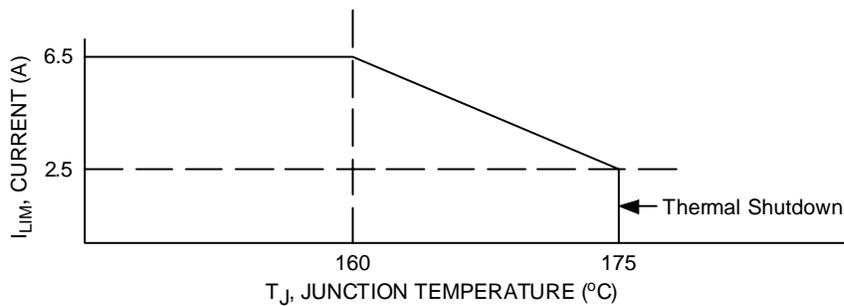
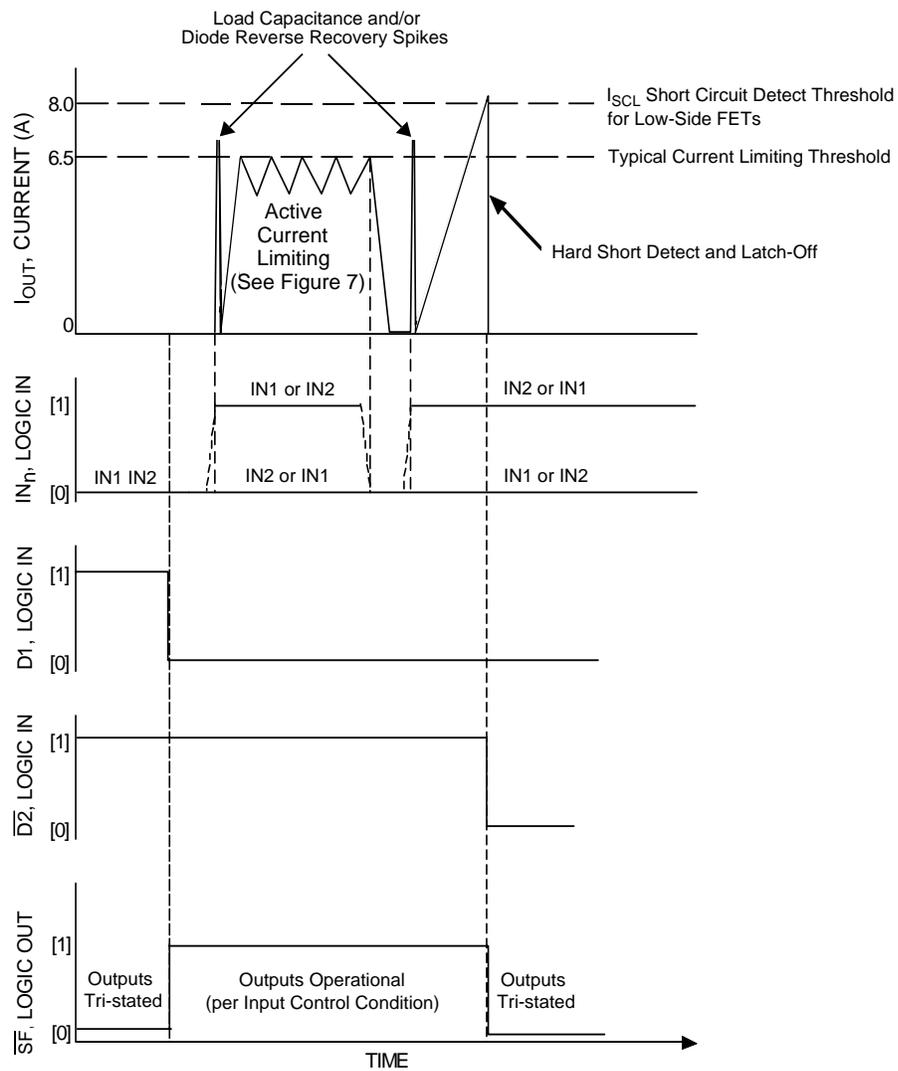

Figure 7. Active Current Limiting Versus Temperature (Typical)
Figure 8. Active Current Limiting Versus Time
- Increasing currents will become limited at ILIM. Hard shorts will breach the ISCH or ISCL limit, forcing the output into an immediate tri-state latch-OFF. See Figures 8 and 9, page 9. Active current limiting will cause junction temperatures to rise. A junction temperature above 160°C will cause the active current limiting to progressively “fold-back” (or decrease) to 2.5 A typical at 175°C where thermal latch-OFF will occur. See Figure 7, page 8.
The current limiting threshold value is dependent upon the device junction temperature. When  $-40^\circ\text{C} < T_J < 160^\circ\text{C}$ ,  $I_{LIM}$  is between 5.2 A and 7.8 A. When  $T_J$  exceeds  $160^\circ\text{C}$ , the  $I_{LIM}$  current decreases linearly down to 2.5 A typical at  $175^\circ\text{C}$ . Above  $175^\circ\text{C}$  the device overtemperature circuit detects  $T_{LIM}$  and overtemperature shutdown occurs (see Figure 7, page 8). This feature allows the device to remain operational for a longer time but at a regressing output performance level at junction temperatures above  $160^\circ\text{C}$ .